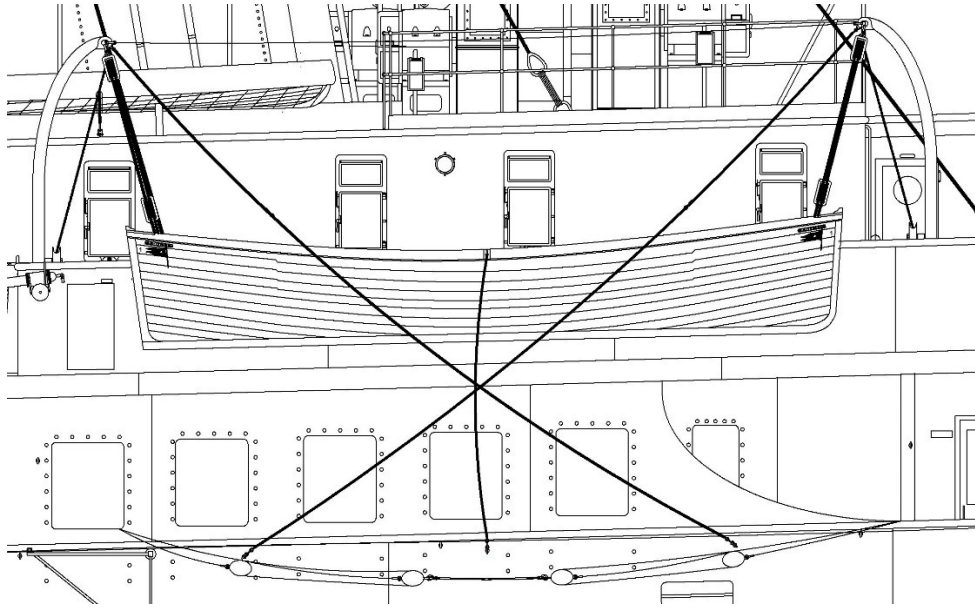

Figure 6
Step 2: The boat is manned and is lowered slightly so that the grips are slack as shown in Figure 6.